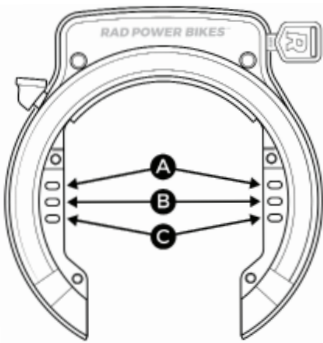

Figure 4: Lock mounts
3. **Determine which lock mounts to use.** The Rad Fat Tire Wheel Lock attaches to the frame mounts using one of three pairs of lock mounts. Refer to Figure 4 to determine which of the lock mounts to use.
- a. **To lock the wheel:** Turn the key clockwise and slide the thumb lever toward the wheel lock opening until the shackle locks in the fully closed position (Figure 8). Then turn the key counter-clockwise to lock the shackle in this position. Make sure the shackle does not interfere with any spokes or the rim of the wheel. If the shackle does interfere, you may need to change the lock mount position (Figure 4).